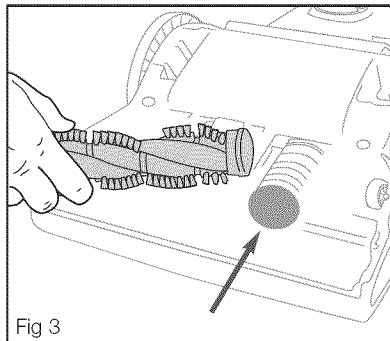
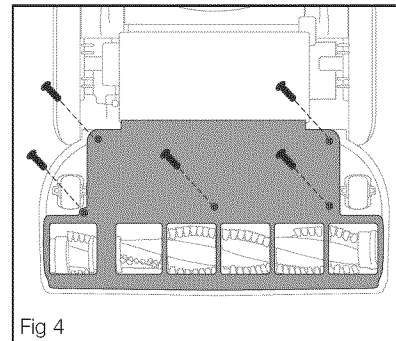

Fig 3
Fig 4
- To clear inlet hose: Lay vacuum face down. Remove 5 screws (Fig. 4); lift off brush roll cover (Fig. 5). Clear blockage from base hose (Fig. 3). Clear debris from brush roll. Replace cover and 5 screws.
- Lay vacuum face down; remove 5 screws (Fig. 4).